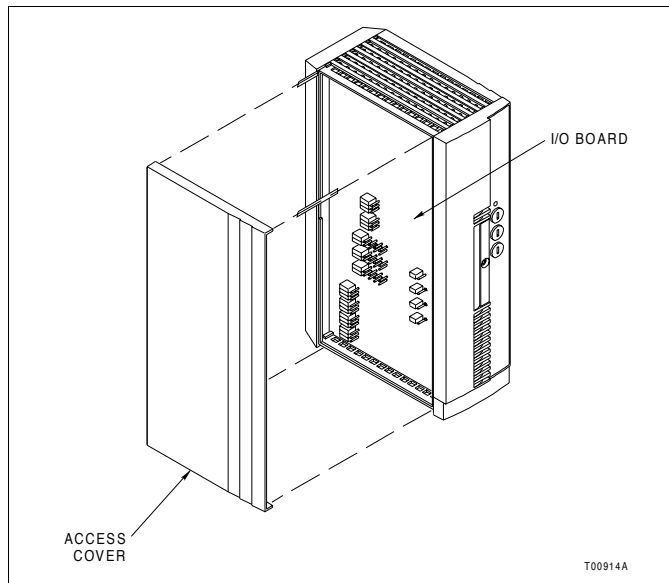

Figure PR11-3. Configuration Jumper Access
- ☐ 6. Remove the access cover from the left side of the I/O module (Fig. PR11-3).